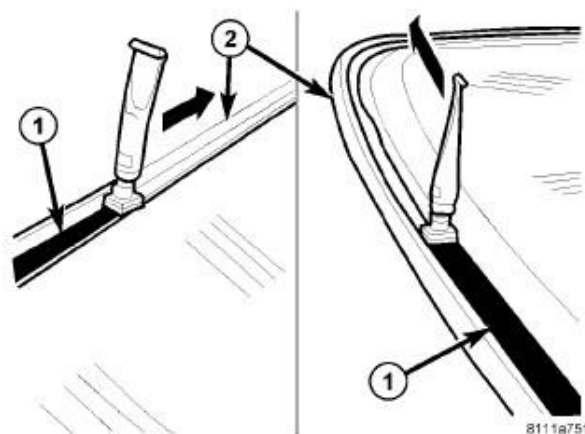

Figure 22 – Primer
47. When installing a **NEW** windshield, using a single step primer like Sika Primer 207, Betaprime 5504g, or equivalent, apply glass primer 25 mm (1 in) wide (1) around the perimeter of the windshield (2) and 5 mm (0.2 in) from the edge of the glass. Allow at least three minutes drying time (Figure 22).